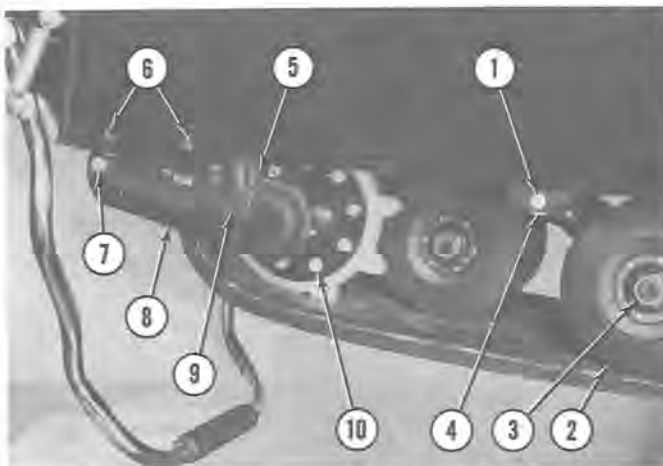

Figure 13
- Remove the locknut (3, figure 13) securing the bogie wheel assembly (2) to the axle shaft and remove the wheel.
- During reassembly, torque the locknut (3) to 28 foot-pounds. Be certain the wheel assembly (2) is installed with grease fittings on the outside.
- Remove the screws (1, figure 13) and washers securing the bogie wheel support shaft to the main frame.
- Release track tension by loosening adjusting bolts (5, figure 13).
- Remove the right- and left-hand adjusting angle locknuts (6), washers and carriage bolts securing the traction belt take-up assembly to the main frame.